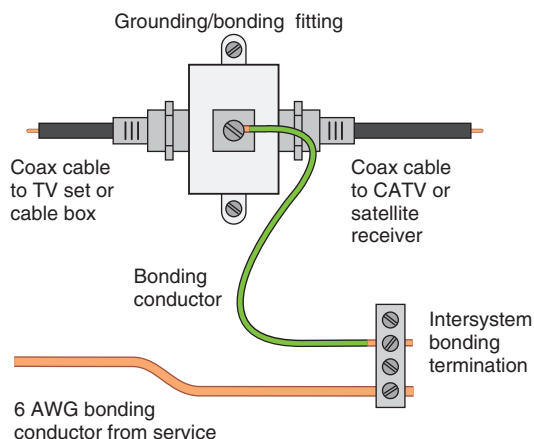

FIGURE 25-13 Typical connection for the required grounding of the metal shield on coaxial cable to the intersystem bonding termination.
- d. In buildings with an intersystem bonding termination, the bonding conductor shall be connected to the intersystem bonding termination. See Figure 25-13.